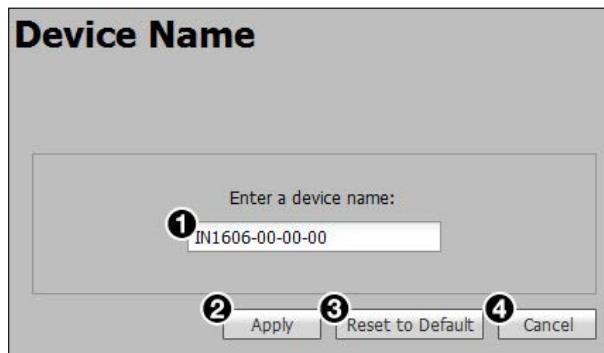

Figure 84. Device Name Page
1. Enter a name for the device in the name field (see figure 84, ①). This can be up to 63 alphanumeric characters in length with no spaces between characters. If an invalid name is entered, a red symbol appears to the right of the name field.
2. Click the **Apply** button (②) to change the name or click the **Cancel** button (④) to keep the previous name.